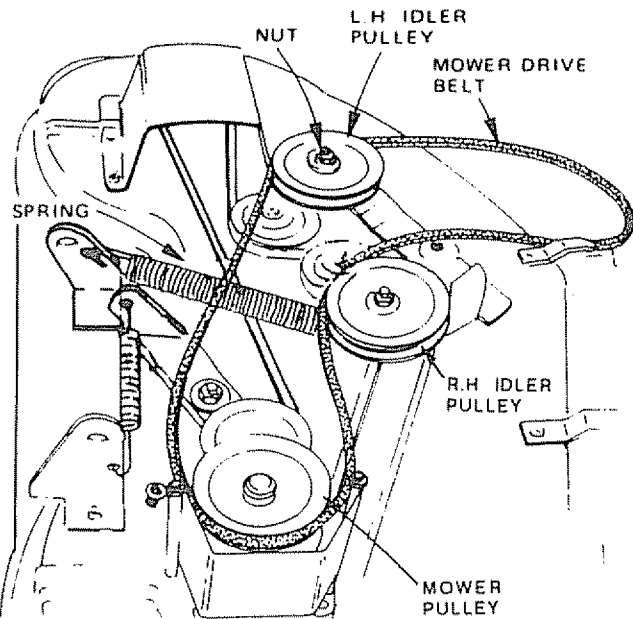

FIGURE 40
- Pull belt off both mower pulley and idler pulleys (Fig. 40)